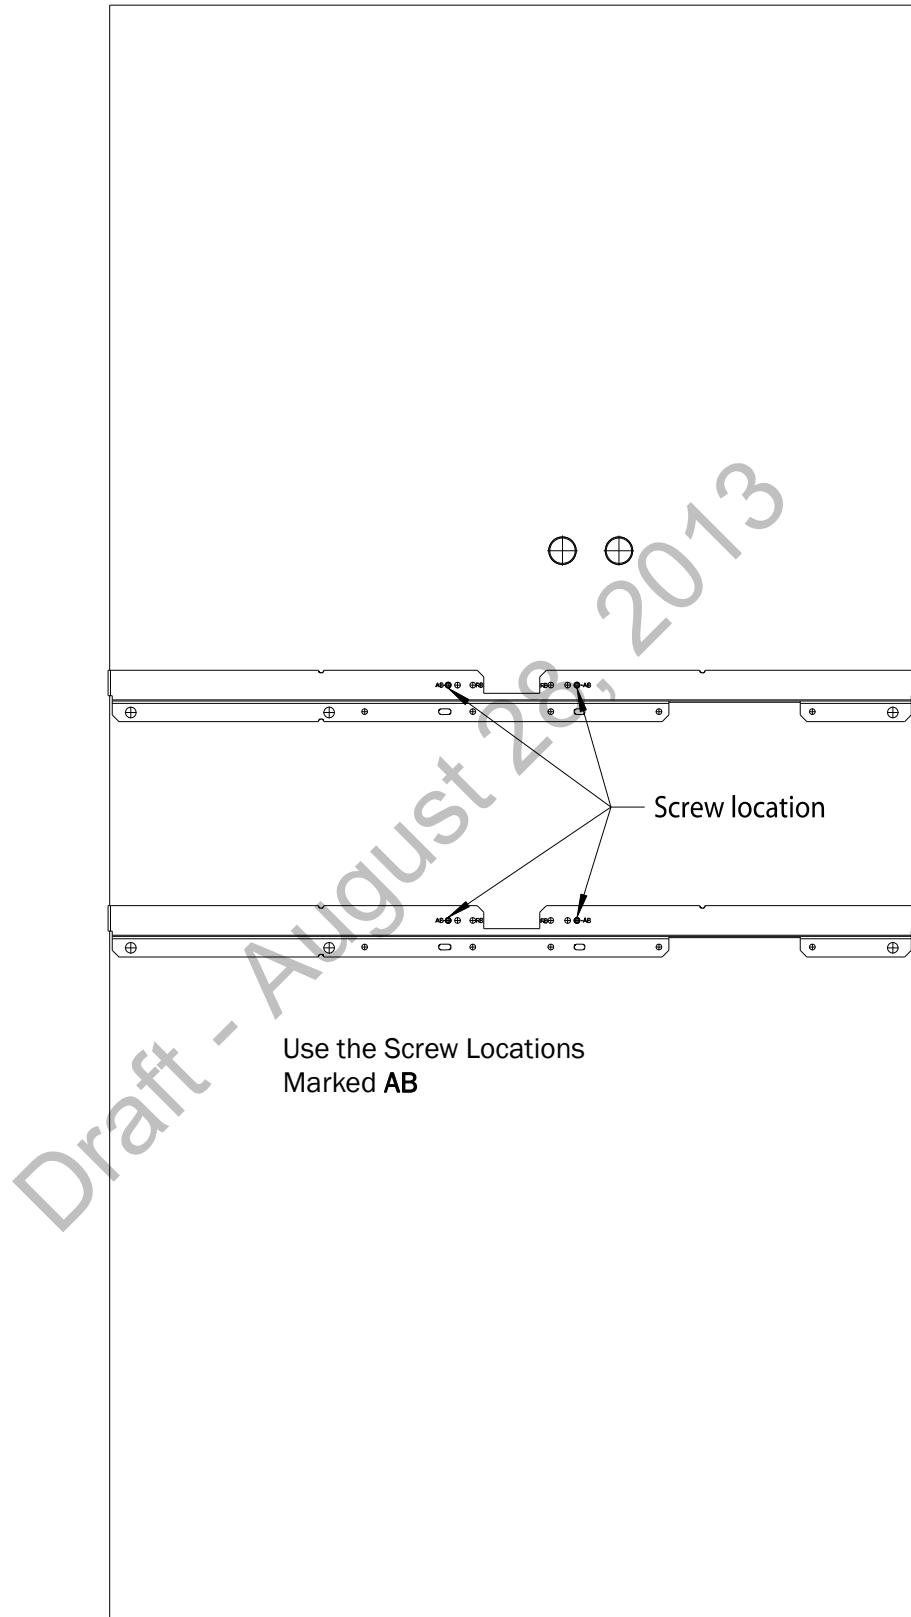

Figure 2-12: Core AP Below Ceiling Tile Mounting Rail Screw Locations
4. Mark the location of the **AB** screw holes in the mounting rails on the ceiling tile where the holes will be drilled through the tile as shown in Figure 2-12. Drill four .375-inch (10 mm) diameter holes in the ceiling tile.